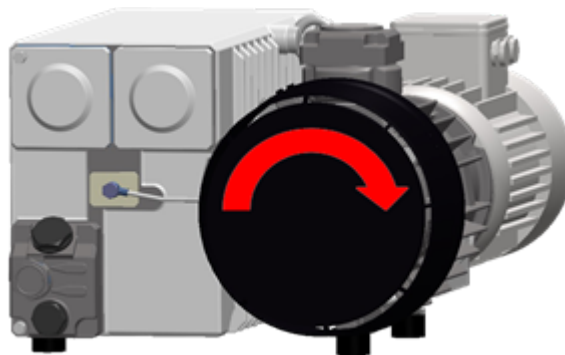

Figure 3: Direction of Rotation of the Vacuum Pump
3. Check the correct direction of rotation of the three-phase model pump. See *Figure 3: Direction of Rotation of the Vacuum Pump* on page 22.